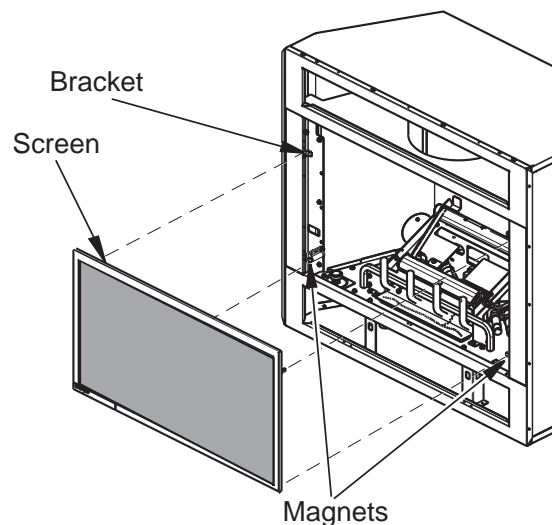

Figure 38 - Installing Fireplace Screen
4. Install fireplace screen by placing the screen brackets on top of the fireplace screen brackets as shown in **Figure 38**. Push the bottom of the screen inward against the magnetic catches to secure in place.